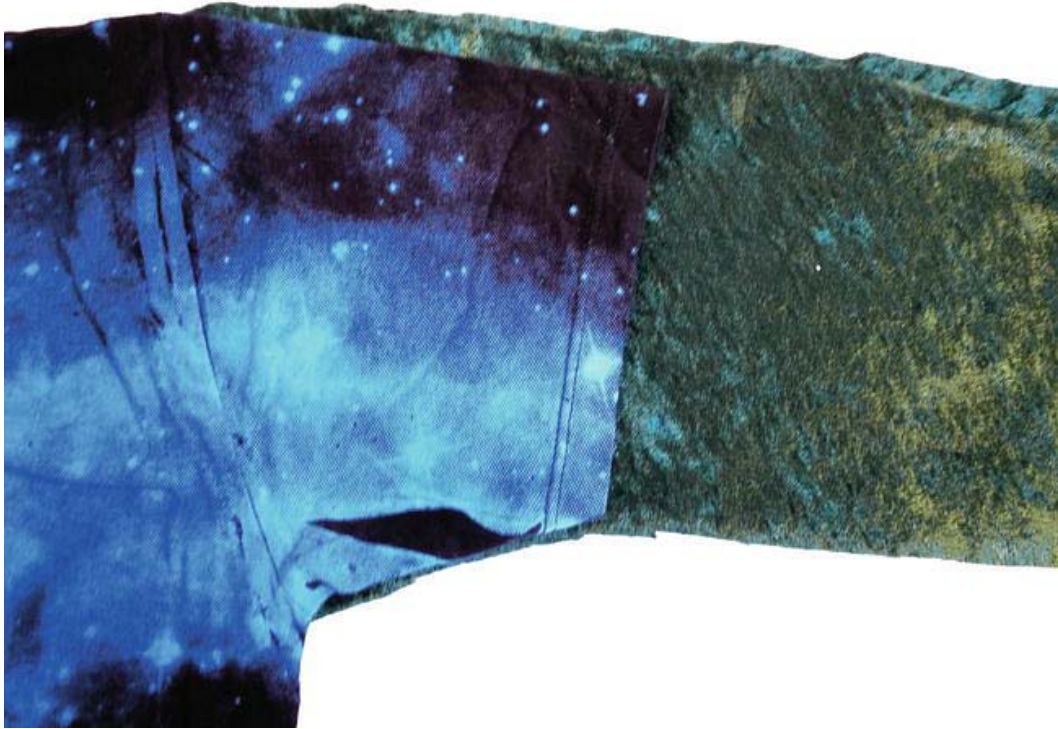

Figure 9-3. *Cutting the arm pieces*
- *The arms (pieces 4 and 5).* Use the T-shirt's arm to get the shape where the arm is stitched to the hoodie. Extend the shape for the arm to fit the length of your arm and then cut the shape on folded fabric, adding about 2 centimeters to the bottom of the arm. Make the fold of the fabric at the top of the arms (top being the edge that joins the shoulders, as shown in Figure 9-3). Now you should have one piece of fabric. When you later stitch the horizontal bottom edges together, you will have a tube that is the arm. Once you are done with the first arm, repeat the process for the opposite arm.